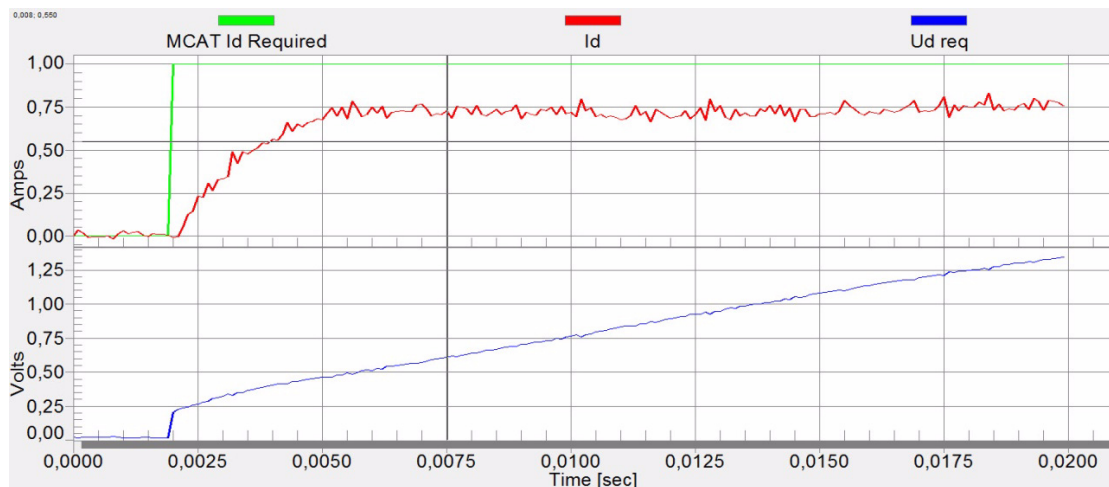

Figure 7. Slow Step Response of I_d Current Controller
- Loop bandwidth is low (100 Hz) and settling time of the I_d current is long, see Figure 7.